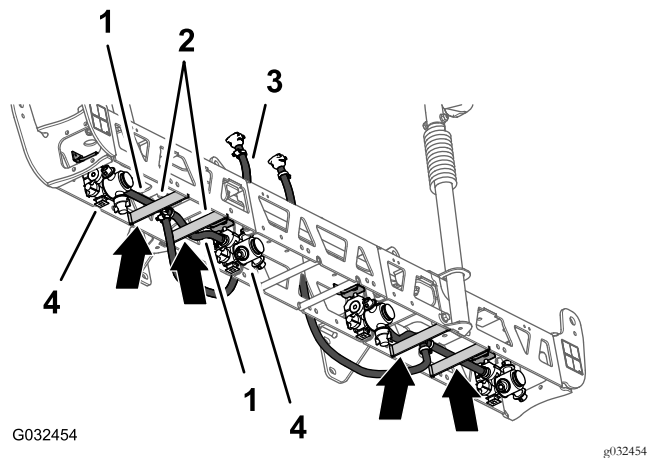
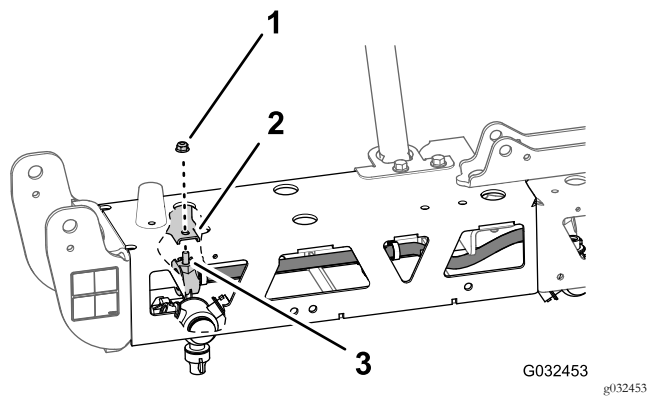

Figure 57
Figure 58
1. Route the hose 13 mm (10 inches) and nozzle assembly between the truss braces of the outer truss (Figure 57).
2. Route the hose and nozzle above the truss brace and outward to the outboard nozzle mount (Figure 57).
3. Align the hex-head bolt (5/16 x 3/4 inch) of the sprayer nozzle through the hole in the nozzle mount and loosely secure the nozzle to the mount with a flange locknut (5/16 inch) from the GeoLink spray system finishing kit (Figure 58).
4. Route the other hose 13 mm (10 inches) and nozzle assembly between the truss braces of the outer truss (Figure 57).
5. Route the hose and nozzle above the truss brace and inward to the inboard nozzle mount (Figure 57).
6. Align the hex-head bolt (5/16 x 3/4 inch) of the sprayer nozzle through the hole in the nozzle mount (Figure 58) and loosely secure the nozzle to the mount with a flange locknut (5/16 inch) that you removed in steps 1 and 4 of Removing the Sprayer Nozzles (page 22).
8. Route the hose and barbed coupler 13 x 810 mm (1/2 x 32 inches) to the side of the center-spray section with the left and right support brackets (Figure 57).
9. Repeat steps 1 through 8 for the other hose and nozzle assembly at the other outer truss (Figure 57 and Figure 58).